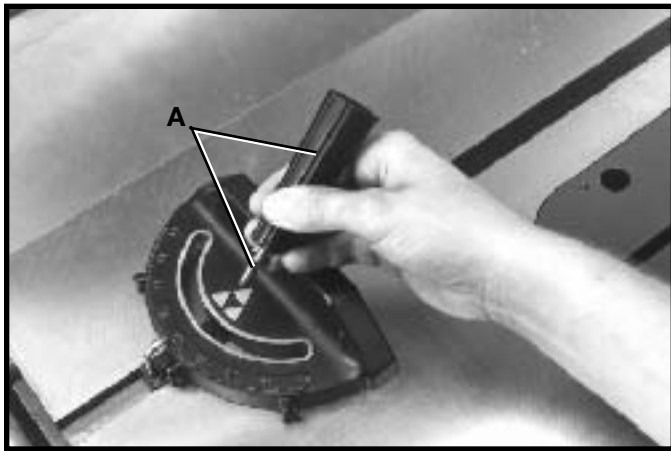

Fig. 68
Insert the miter gage bar into the miter gage slot and assemble the washer and lock handle (A) Fig. 68, to the miter gage bar as shown.